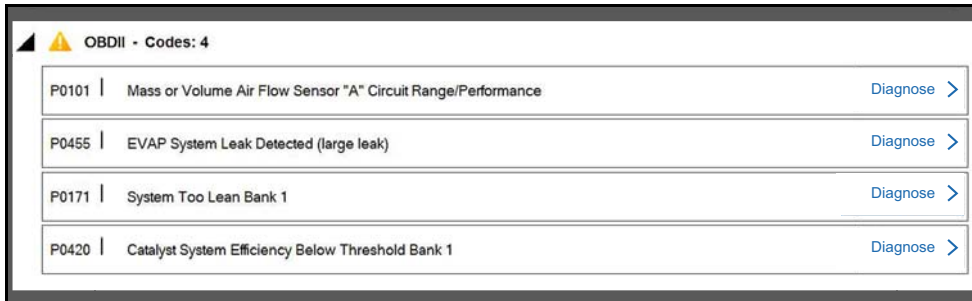

Figure 5-23 OBD-II code results
- **Global OBDII DTCs.** Towards the end of the Code Scan list Global OBD-II DTCs are displayed (if applicable) (Figure 5-23).